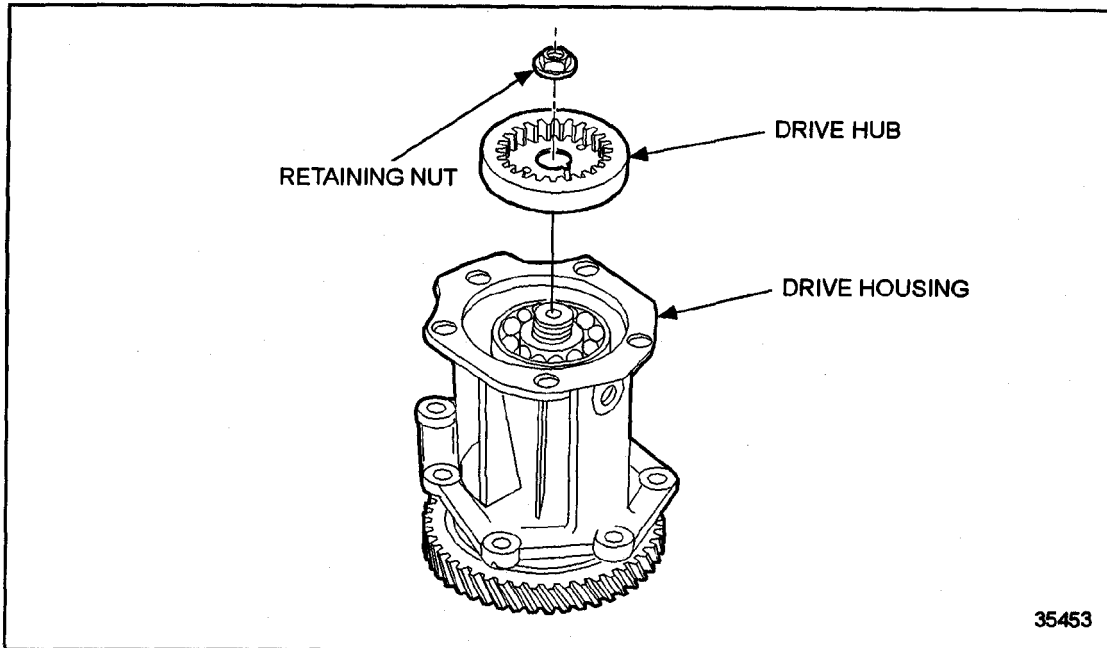

Figure 10-35 Air Compressor/Raw Water Pump Drive Hub Installation
24. Place the spacer on the drive shaft (current design only), seating it against bearing inner race. Install the drive hub on the drive shaft. See Figure 10-35.